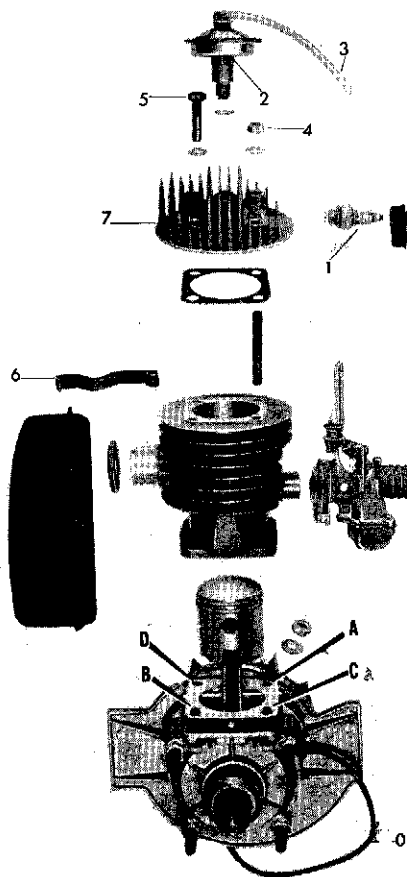

Fig. L20
7. Remove Spark Plug (No. 1). Disconnect decompressor vacuum pipe (No. 3) from cylinder barrel and remove decompressor unit (No. 2) from cylinder head (No. 7). (See fig. L20).
8. Remove cylinder head bolts (No. 5), nuts (No. 4) and washers. (See fig. L20). Spanner size $\frac{1}{4}$ ". Whitworth or tube type required.
10. Loosen clips (No. 6) and remove the muffler. (See fig. L20).
11. Remove 4 cylinder base nuts and shake-proof washers A, B, C, D (Fig. L20). The cylinder should now be free; if not, a light blow on its top end with palm of hand will break lower joint. Gently slide cylinder off the piston.